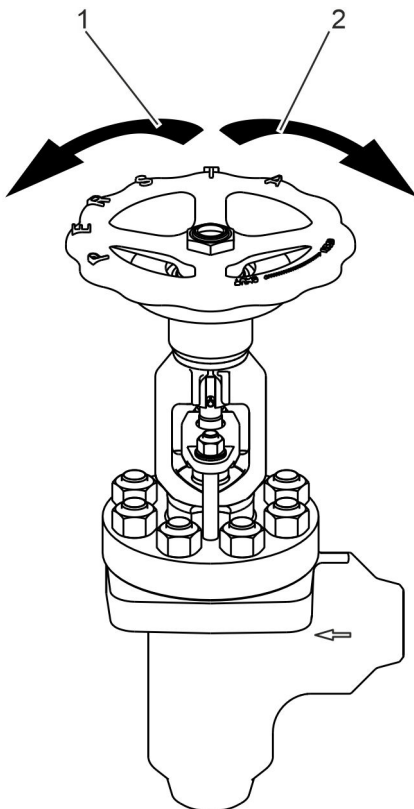

Fig. 16: Valve: Top view
2. ➤ Fully open the valve by turning the handwheel anti-clockwise (Fig. 16/1).
3. ➤ Fully close the valve by turning the handwheel clockwise (Fig. 16/2).